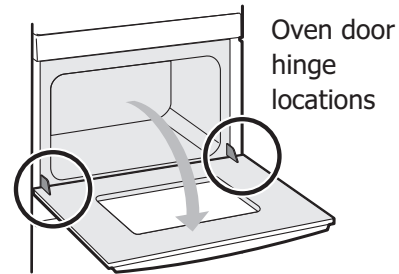

Figure 11: Door hinge location
1. Open oven door completely, horizontal with floor (Figure 11).
3. Fully open the oven door, horizontal with floor (Figure 11).